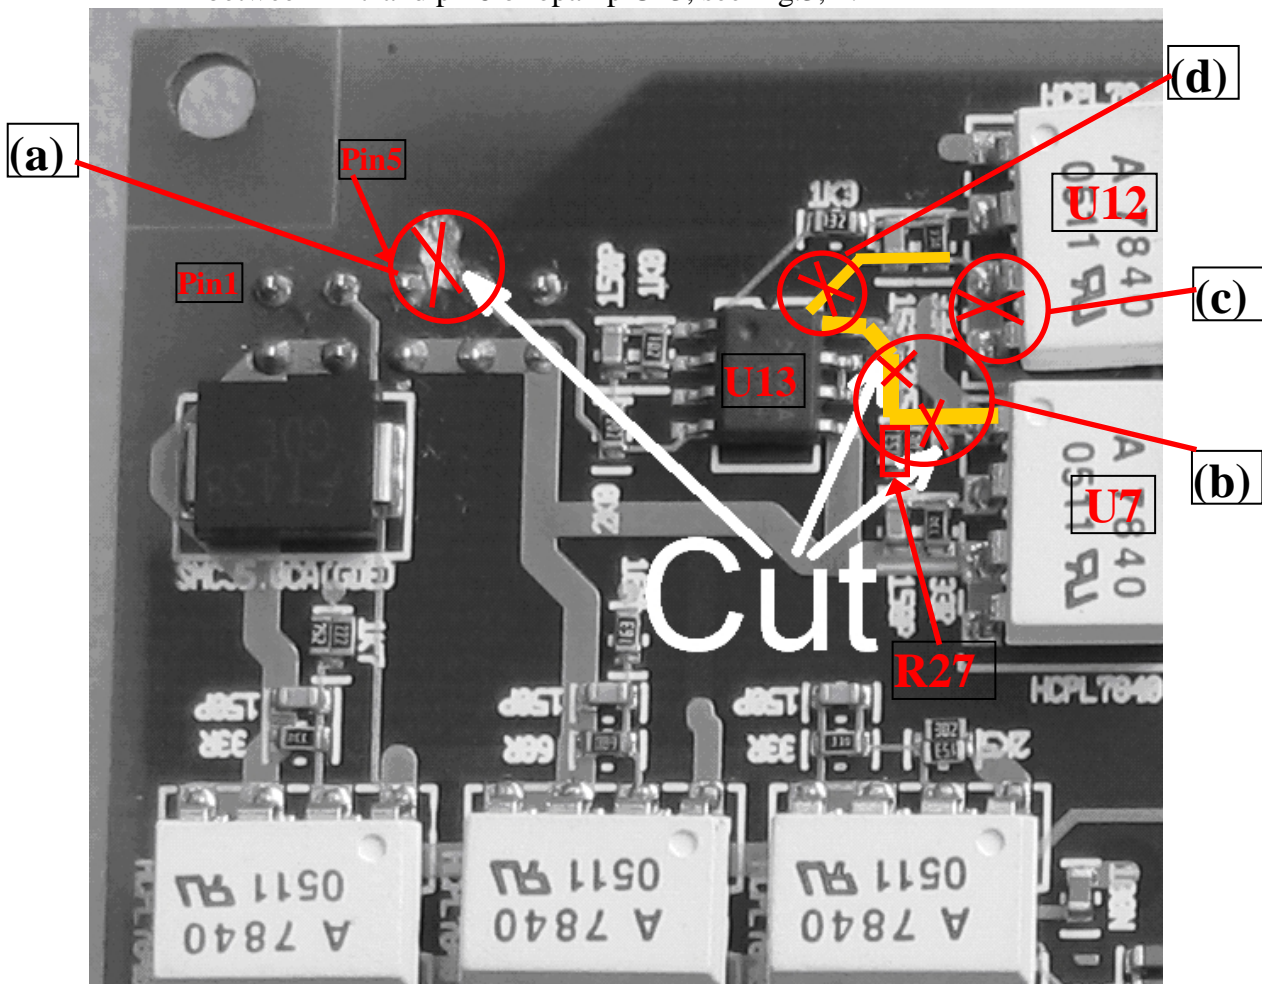

Fig.3: Bottom side photos of ELMB\_MBv6.5. Cutting traces on bottom side.
- (a) Cut +5VMB pcb trace from pin5 on connector J12 on the ELMB\_MB bottom side, see Fig.3. The pcb trace is under the surface level, so a milling cutter has to be used.
- (b) Cut two traces, between R27 and pin1 of U7 isolation amplifier, and pcb path between R27 and pin8 of opamp U13, see Fig.3, 4.
- (c) Cut trace between pin3 and pin4 of U12 isolation amplifier, see Fig.3, 4.
- (d) Cut trace going to gnd from C22 and R38, see Fig.3, 4.